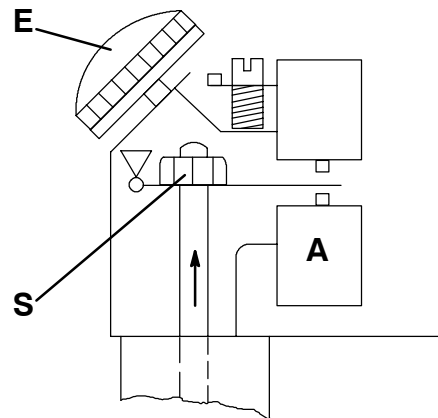

Figure 4-25. Humidistat
1. The upper switching point of switch A is set by the set point knob E (See Figure 4-25).
2. In case of deviations of the measured humidity from the set point, a recalibration by means of the nut (S) is recommended: